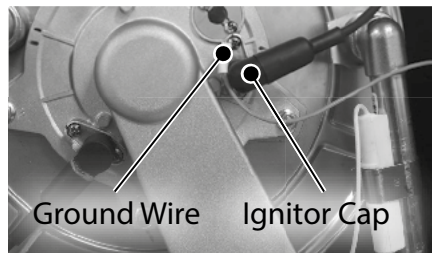

Figure 1 - Remove ignitor rod cap
- 5 Locate the ignitor rod on the burner assembly as shown in Figure 1. Remove the cap from the ignitor rod. **DO NOT** pull on wires.
- 6 Disconnect the green ground wire at the ignitor rod as shown in Figure 1. Route the wire inside the water heater cabinet for ease of access to ignitor rod.
- 7 Use a Phillips screwdriver to remove the two (2) screws securing ignitor rod to the burner assembly. Place screws aside in a safe place for reinstallation.